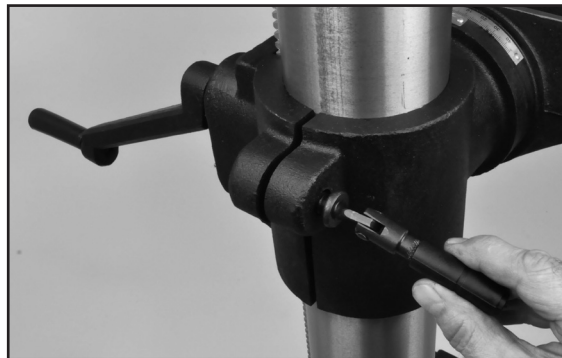

Figure 5
8. Install the locking lever handle onto the table support bracket. Tightening the locking lever handle secures the table support to the column so that it does not move during the remaining assembly steps, and in normal drill press operation (Figure 5).